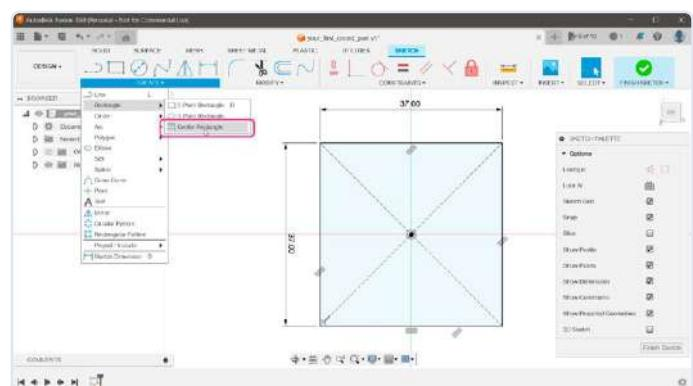

Figure 2: Defining the rectangle sizes.
2) Using the caliper, I measured the rotary encoder module size to be 37x37 mm. Let's create a new rectangle to visualize the PCB's size (**Figure 2**). Go to *CREATE* → *Rectangle* → *Center Rectangle*. Once the tool is active, place the first point on the origin. Use a keyboard to type one dimension (37), jump to the next edit field with the *Tab* key, and type the second value (37). To complete the creation process, hit the *Enter* key.